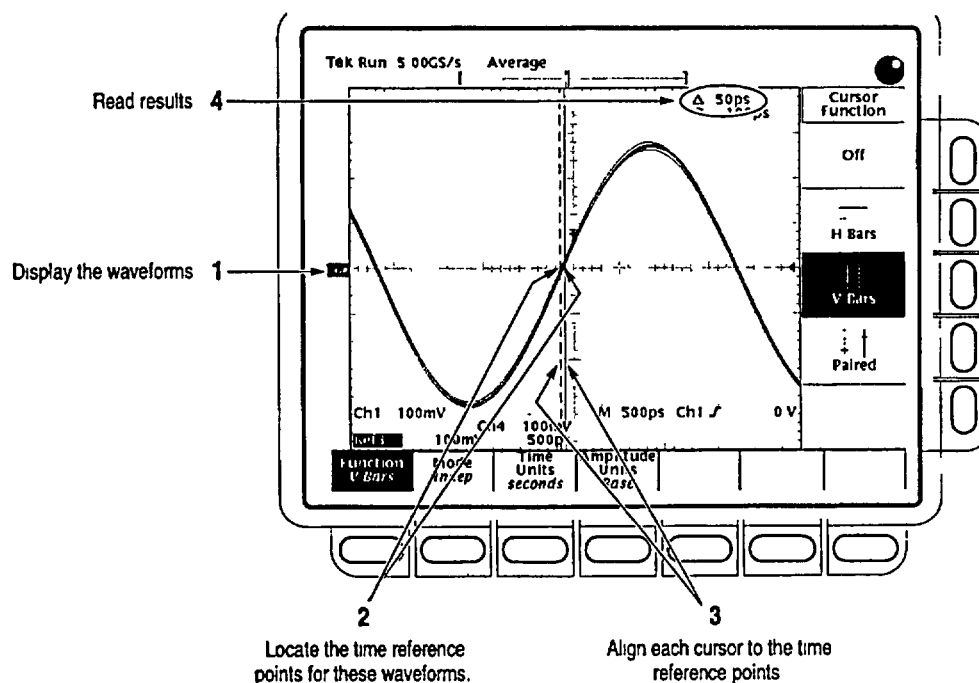

Figure 4. Channel delay.
- (24) Press side-menu **To Ref 3** key.
- (25) Press front-panel **WAVEFORM OFF** key.
- (26) Move dual input coupler from **CH 3** to **CH 4**.
- (27) Press **CH 4** key.
- (28) Verify vertical scale factor is 1.0X.
- (29) Press front-panel **MORE** key.
- (30) Press main-menu **Ref 2** and **Ref 3** keys.
(31) Locate time reference points for waveforms. Do this by identifying the point where the rising edge of the left-most waveform crosses the center horizontal graticule line. Next, note the corresponding time reference point for the right-most waveform. See figure 4.